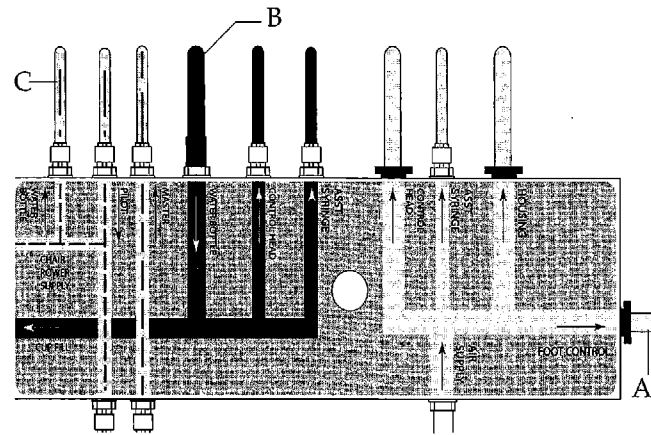

Figure 33. Connecting water bottle tubing to the chair air/water manifold. (A) foot control tubing; (B) water tubing; (C) air tubing
2. Attach the blue water tubing to the manifold and secure with the black tubing sleeve (see Figure 33).